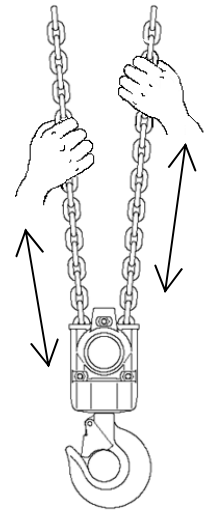

Fig.5
- (2) Keep Load chain clean and well lubricated.
- (3) Check Load hook is not stretched or damaged and Hook latch is in the normal position.
- (4) Check Chain wheel in Hook block rotates smoothly (See Fig. 5).
- (5) Check the support bearing of Load hook is not damaged, and swivels easily and smoothly.
- (6) Check the trolley wheels track the rail properly and the wheels and rail are not worn.
- (7) Check that the lifting sling (suspension fastening) is not damaged or worn.